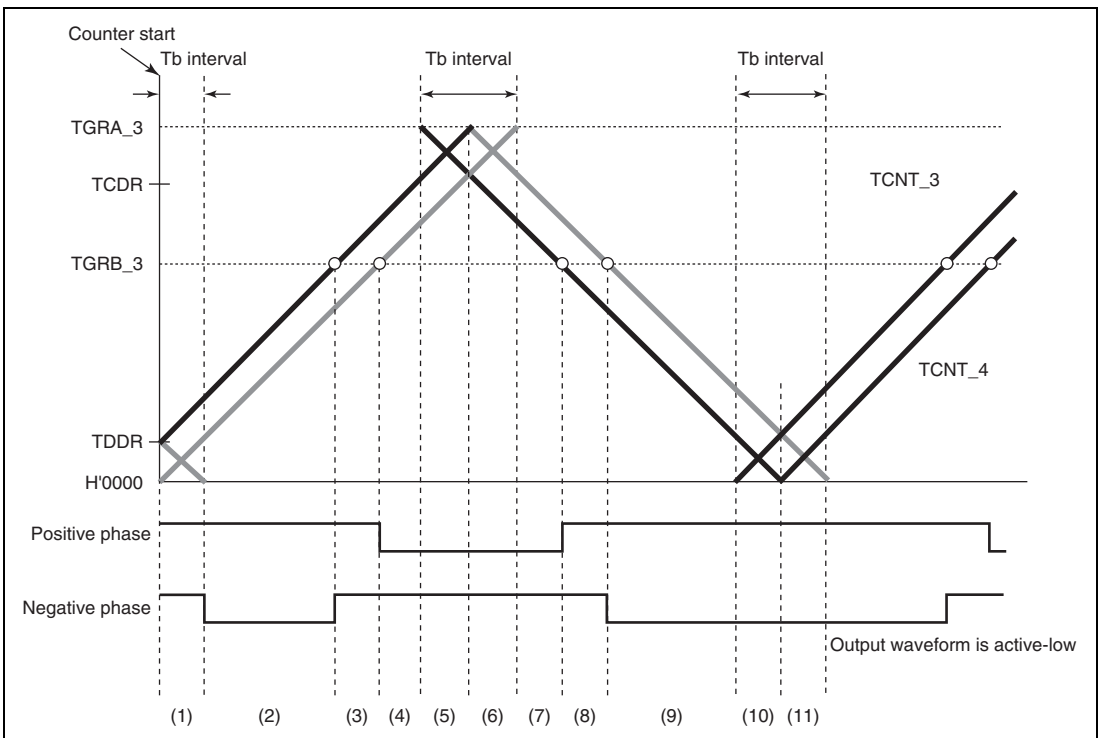
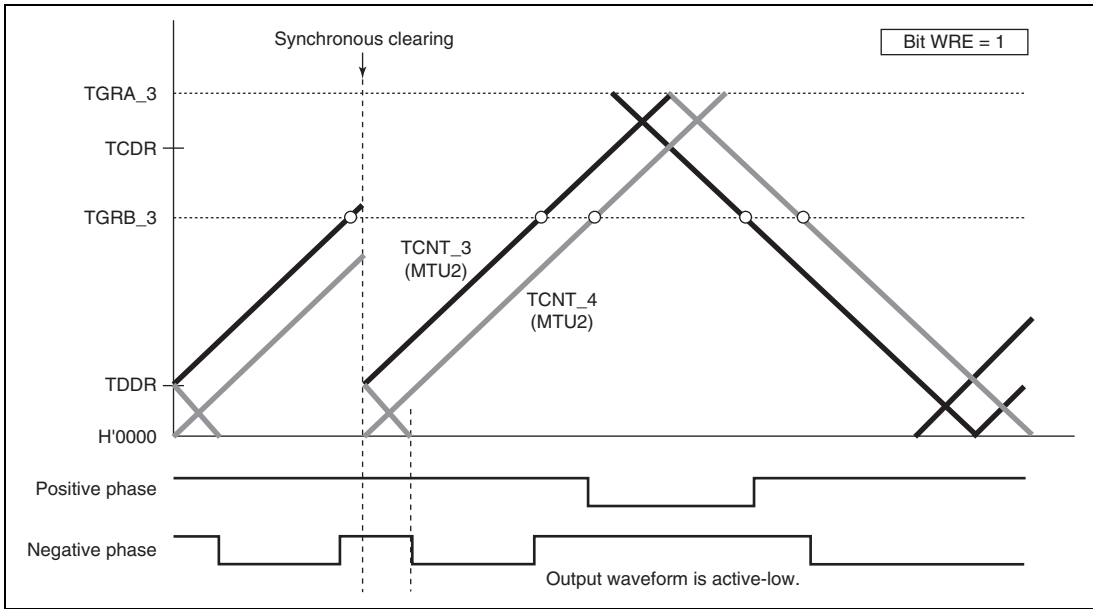
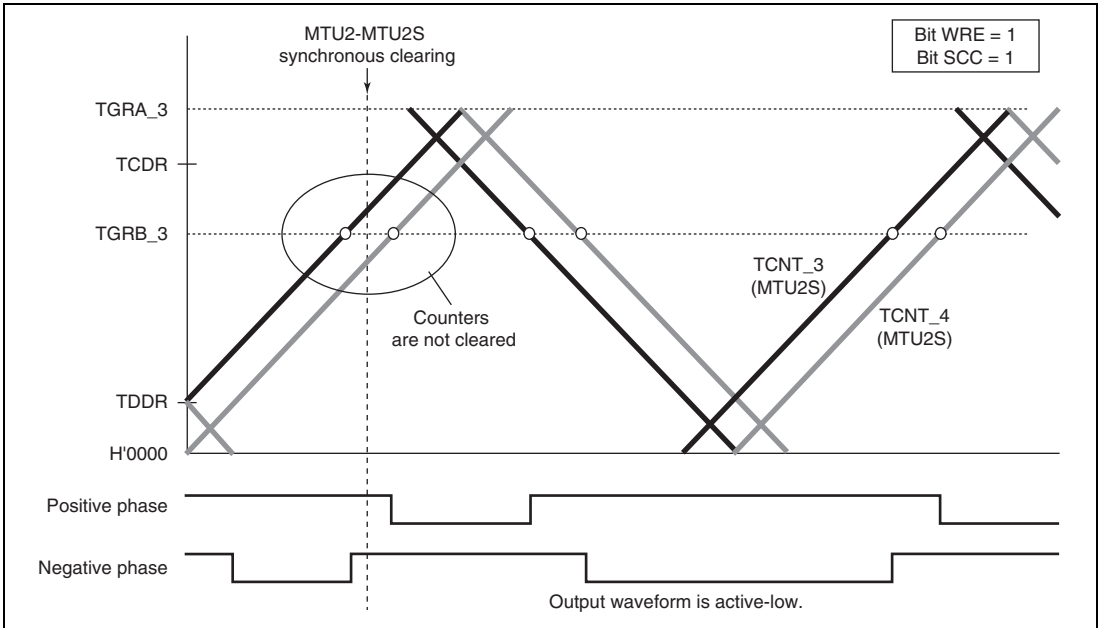

Figure 11.56 Timing for Synchronous Counter Clearing
Figure 11.58 Example of Synchronous Clearing in Dead Time during Up-Counting (Timing (3) in Figure 11.56; Bit WRE of TWCR in MTU2 is 1)
Figure 11.64 Example of Synchronous Clearing in Dead Time during Up-Counting (Timing (3) in Figure 11.56; Bit WRE is 1 and Bit SCC is 1 in TWCR of MTU2S)
Initial output suppression is applicable only when synchronous clearing occurs in the T_b interval at the trough as indicated by (10) or (11) in figure 11.56. When synchronous clearing occurs outside that interval, the initial value specified by the OLS bits in TOCR is output. Even in the T_b interval at the trough, if synchronous clearing occurs in the initial value output period (indicated by (1) in figure 11.56) immediately after the counters start operation, initial value output is not suppressed.
Figures 11.58 to 11.61 show examples of output waveform control in which the MTU2 operates in complementary PWM mode and synchronous counter clearing is generated while the WRE bit in TWCR is set to 1. In the examples shown in figures 11.58 to 11.61, synchronous counter clearing occurs at timing (3), (6), (8), and (11) shown in figure 11.56, respectively.
Figures 11.64 to 11.67 show examples of operation in which the MTU2S operates in complementary PWM mode and MTU2–MTU2S synchronous counter clearing is suppressed by setting the SCC bit in TWCR in the MTU2S to 1. In the examples shown in figures 11.64 to 11.67, synchronous counter clearing occurs at timing (3), (6), (8), and (11) shown in figure 11.56, respectively.